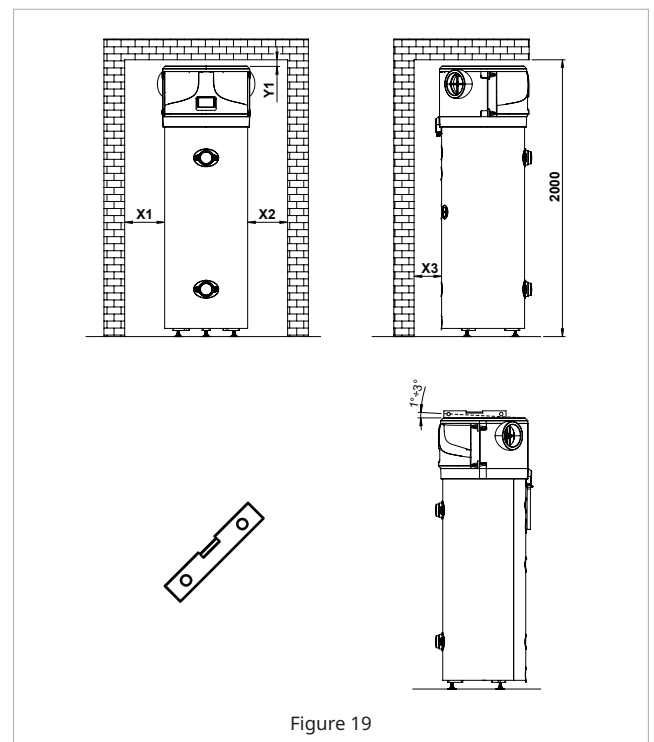

Figure 19
5.3.4 Installation non gainable (Figure 19)